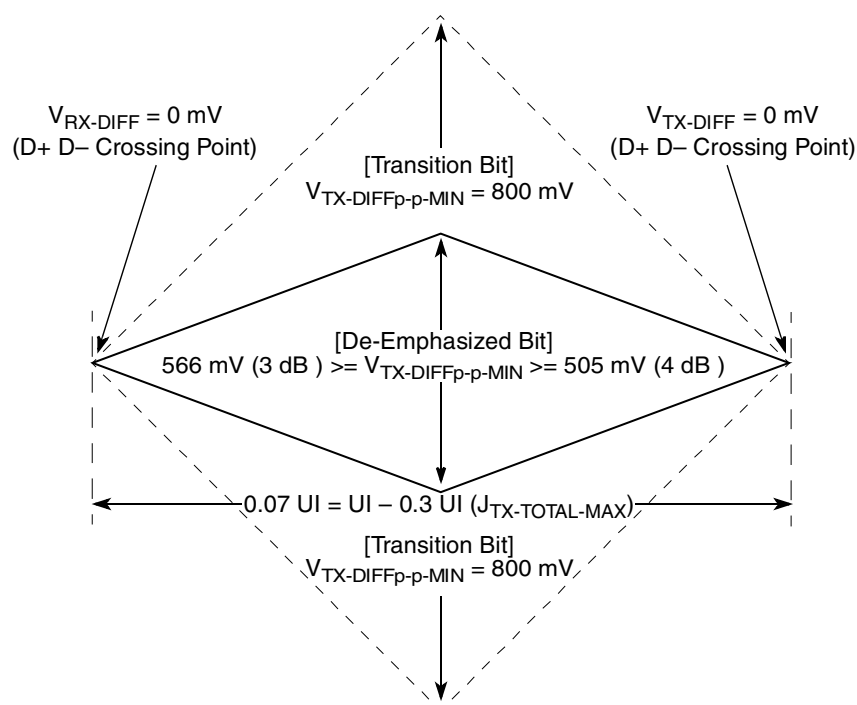
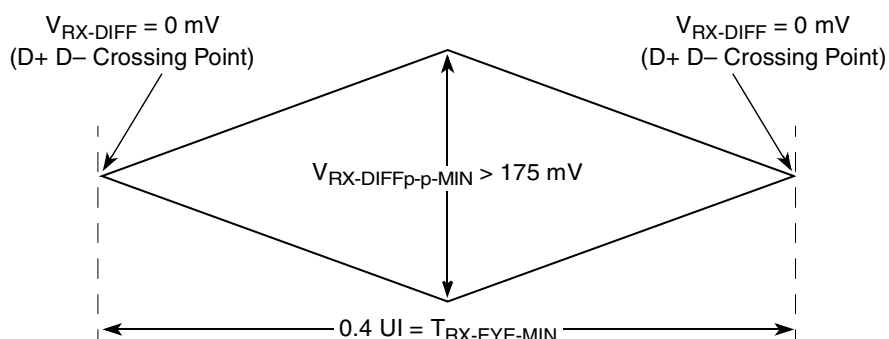
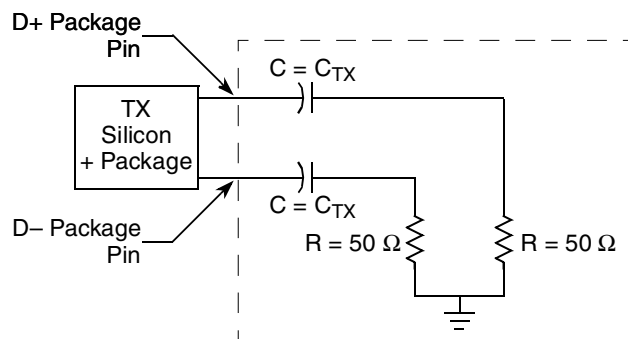

Figure 55. Minimum Transmitter Timing and Voltage Output Compliance Specifications
Figure 56. Minimum Receiver Eye Timing and Voltage Compliance Specification
Figure 57. Compliance Test/Measurement Load
2. Specified at the measurement point into a timing and voltage compliance test load as shown in Figure 57 and measured over any 250 consecutive TX UIs. (Also refer to the transmitter compliance eye diagram shown in Figure 55.)
4. The Transmitter input impedance shall result in a differential return loss greater than or equal to 12 dB and a common mode return loss greater than or equal to 6 dB over a frequency range of 50 MHz to 1.25 GHz. This input impedance requirement applies to all valid input levels. The reference impedance for return loss measurements is 50 ohms to ground for both the D+ and D- line (that is, as measured by a Vector Network Analyzer with 50 ohm probes—see Figure 57). Note that the series capacitors C_{TX} is optional for the return loss measurement.
5. Measured between 20-80% at transmitter package pins into a test load as shown in Figure 57 for both V_{TX-D+} and V_{TX-D-} .
The TX eye diagram in Figure 55 is specified using the passive compliance/test measurement load (see Figure 57) in place of any real PCI Express interconnect + RX component.
2. Specified at the measurement point and measured over any 250 consecutive UIs. The test load in Figure 57 should be used as the RX device when taking measurements (also refer to the Receiver compliance eye diagram shown in Figure 56). If the clocks to the RX and TX are not derived from the same reference clock, the TX UI recovered from 3500 consecutive UI must be used as a reference for the eye diagram.
4. The Receiver input impedance shall result in a differential return loss greater than or equal to 15 dB with the D+ line biased to 300 mV and the D- line biased to -300 mV and a common mode return loss greater than or equal to 6 dB (no bias required) over a frequency range of 50 MHz to 1.25 GHz. This input impedance requirement applies to all valid input levels. The reference impedance for return loss measurements for is 50 ohms to ground for both the D+ and D- line (that is, as measured by a Vector Network Analyzer with 50 ohm probes - see Figure 57). Note: that the series capacitors CTX is optional for the return loss measurement.
The RX eye diagram in Figure 56 is specified using the passive compliance/test measurement load (see Figure 57) in place of any real PCI Express RX component.
Note: In general, the minimum Receiver eye diagram measured with the compliance/test measurement load (see Figure 57) is larger than the minimum Receiver eye diagram measured over a range of systems at the input Receiver of any real PCI Express component. The degraded eye diagram at the input Receiver is due to traces internal to the package as well as silicon parasitic characteristics which cause the real PCI Express component to vary in impedance from the compliance/test measurement load. The input Receiver eye diagram is implementation specific and is not specified. RX component designer should provide additional margin to adequately compensate for the degraded minimum Receiver eye diagram (shown in Figure 56) expected at the input Receiver based on some adequate combination of system simulations and the Return Loss measured looking into the RX package and silicon. The RX eye diagram must be aligned in time using the jitter median to locate the center of the eye diagram.
The reference impedance for return loss measurements is 50. to ground for both the D+ and D- line (that is, as measured by a Vector Network Analyzer with 50. probes—see Figure 57). Note that the series capacitors, CTX, are optional for the return loss measurement.
The AC timing and voltage parameters must be verified at the measurement point, as specified within 0.2 inches of the package pins, into a test/measurement load shown in Figure 57.